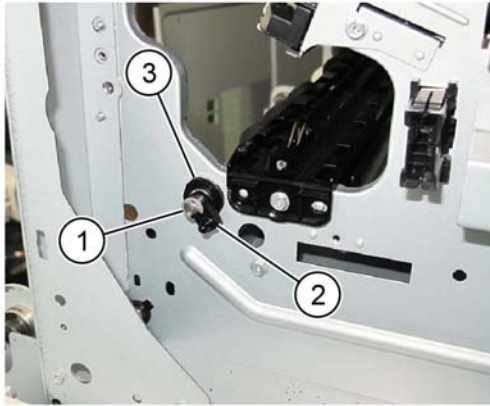

Figure 2 Front bearing removal
9. Remove the front bearing, **Figure 2**:
- a. Remove the E-clip (1).
- b. Remove the registration coupling (2).
- c. Remove the bearing (3).